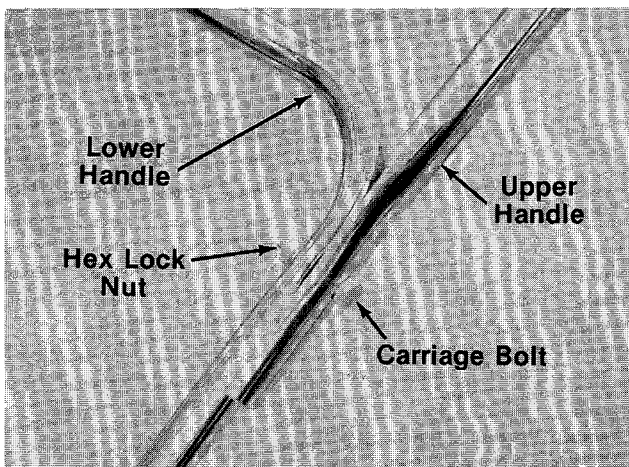

FIGURE 2.
- ← 3. Assemble upper handle to lower handle. Secure with two carriage bolts and hex lock nuts as shown in figure 2.